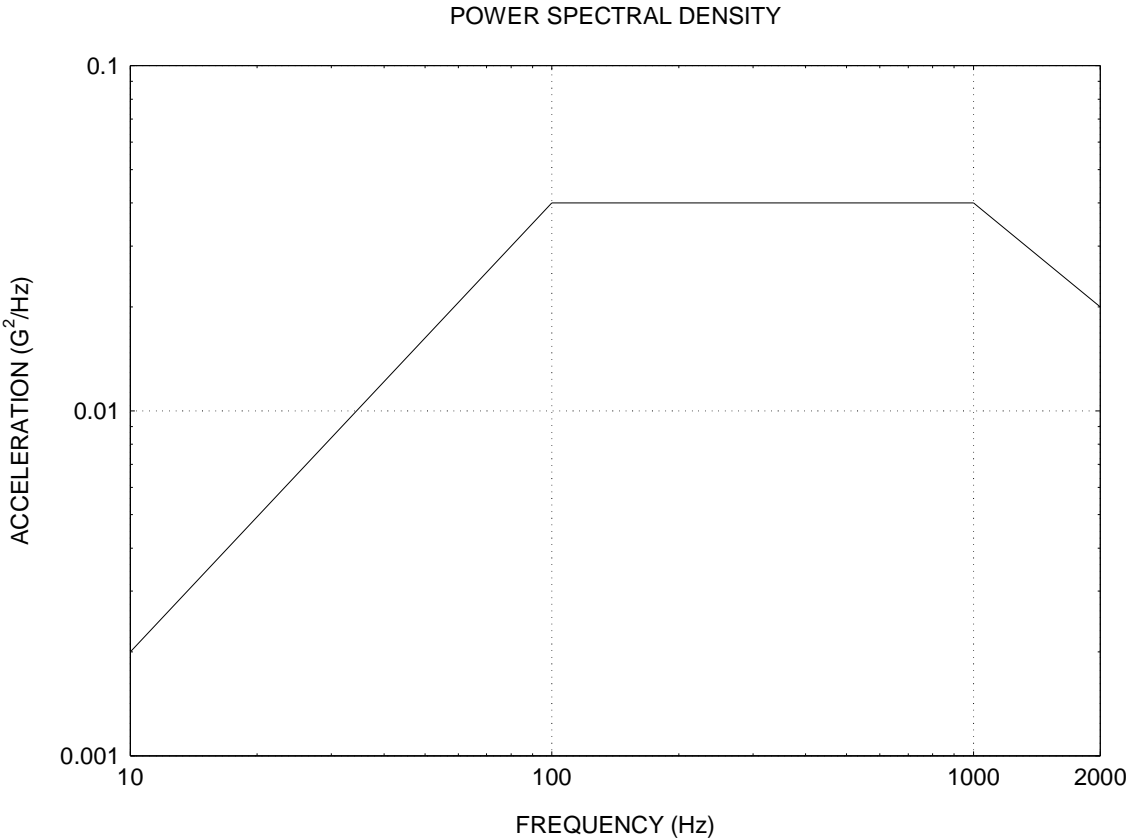
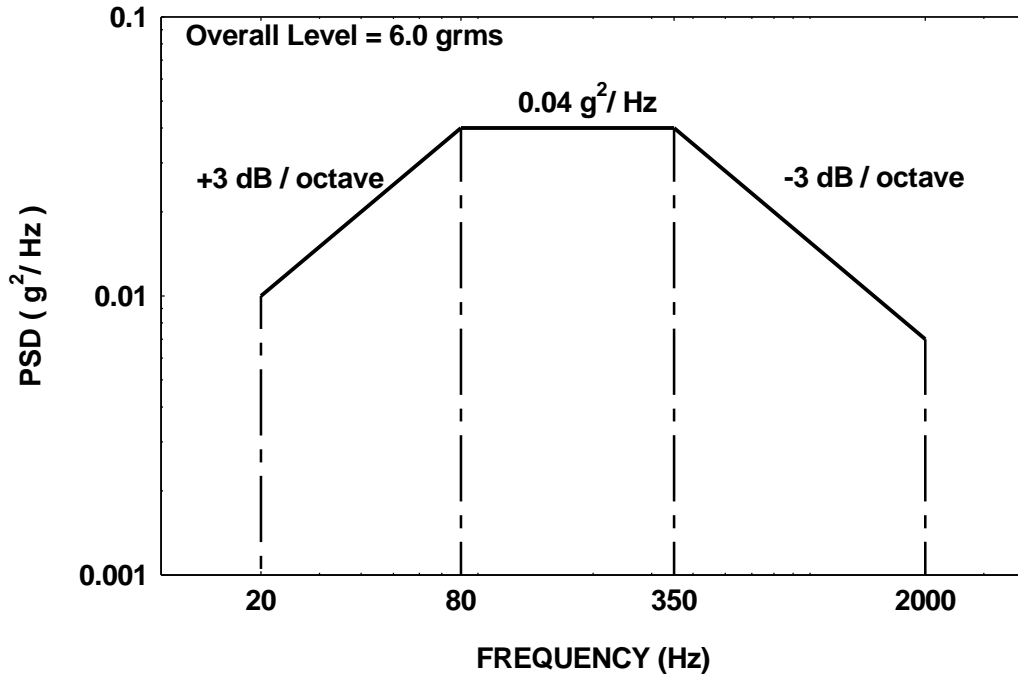

Figure 3
Figure A-1.
A sample base input power spectral density is shown in Figure 3.
The level in Figure 3 could represent an envelope of flight accelerometer data. A safety margin might be included in this level.
What is the response of the component to the base input shown in Figure 3?
Now consider that the natural frequency of the avionics component is unknown, but assume an amplification factor of  $Q=10$ . The base input is the level in Figure 3.
1. NAVMAT P-9492 gives the power spectral density specification shown in Figure A-1.
Calculate the vibration response spectrum using Miles equation for the level in Figure A-1. Assume an amplification factor of  $Q = 10$ . Use program dBoct.exe to calculate the input level at the ramp frequencies.
3. A component has a natural frequency of 90 Hz and an amplification factor of  $Q = 10$ . It has been successfully tested to the 6.0 GRMS level in Figure A-1. Next, the design requirements are changed. The component must now be tested to the 8.1 GRMS level in Figure 3. A program management goal is to avoid additional testing despite the new requirement. How could you justify that the original test is sufficient to meet the revised test specification? This is a very, very typical problem in the "real-world" sense.